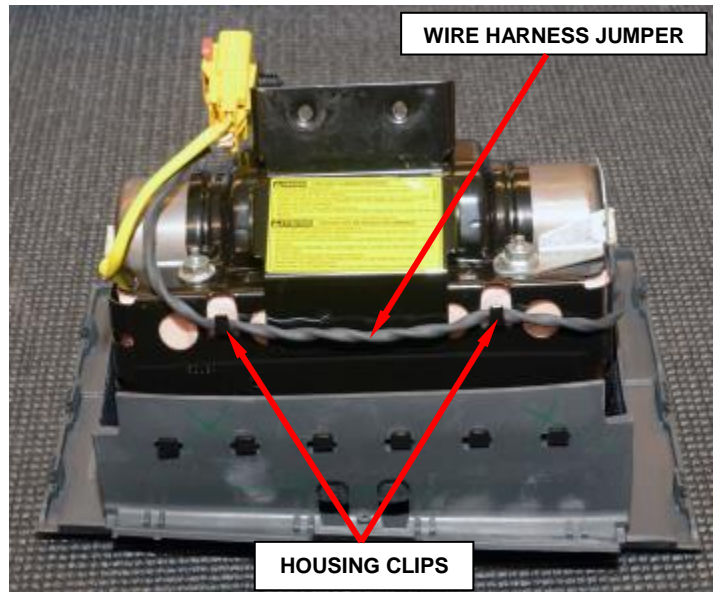

Figure 94 – Passenger Airbag Assembly
- b. Disengage the wire harness jumper from the housing clips in two places (Figure 94).
- l. Engage the wire harness jumper under the housing clips in two places (Figure 94).